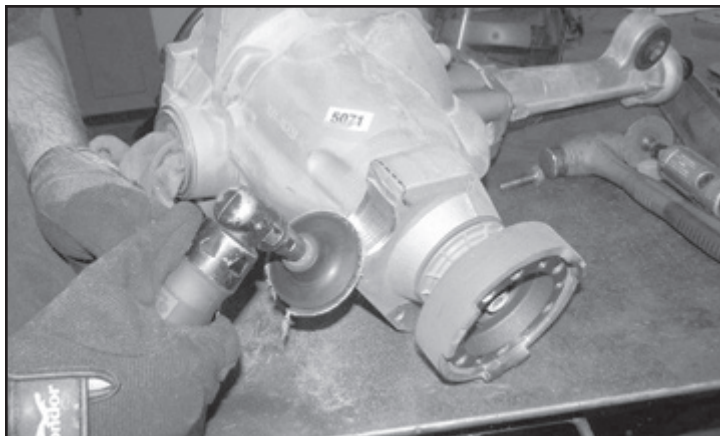

FIGURE 12 - STEP 18
18. Use a sander and remove all sharp edges and burs after the cut. **SEE FIGURE 12**